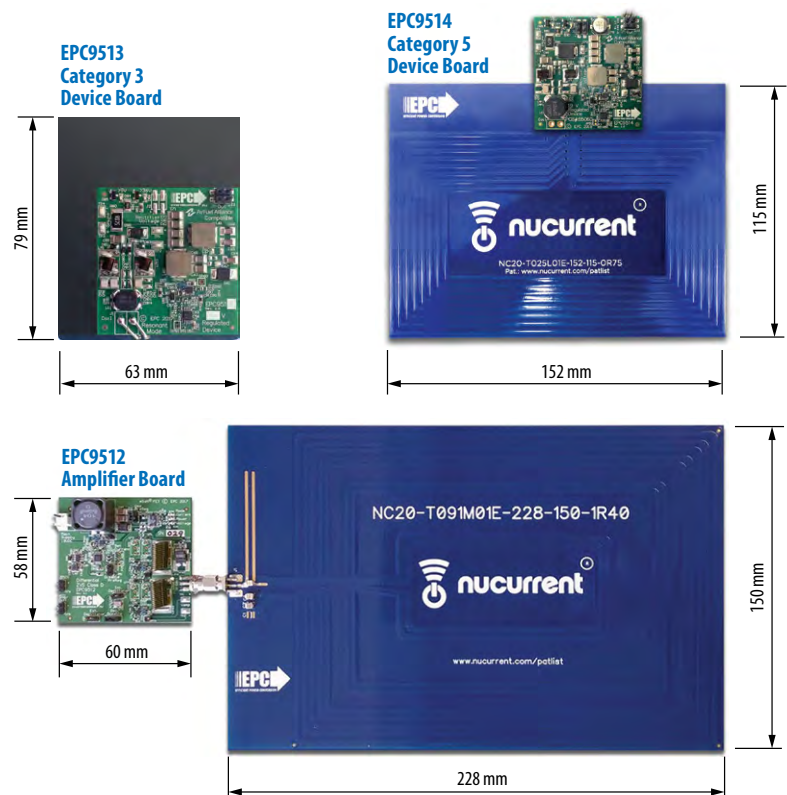
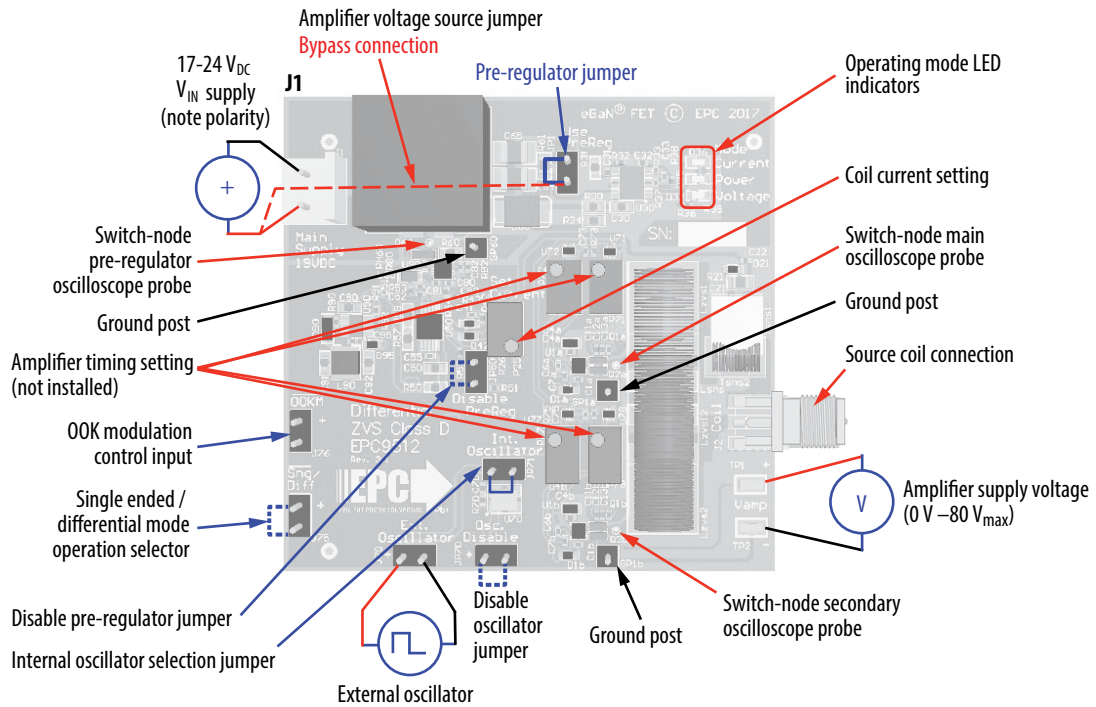

Figure 1: EPC9129 evaluation system.
Figure 8: Proper connection and measurement setup for the amplifier board.
The EPC9129 wireless power system is comprised of the four boards (shown in figure 1), namely:
The assembly of the EPC9129 Wireless Demonstration kit is simple and shown in figure 1. The source coil and amplifier have been equipped with SMA connectors. The source coil is simply connected to the amplifier. The device board do not need to be mechanically attached to the source coil.
The EPC9129 evaluation system is easy to set up and evaluate the performance of the eGaN FET in a wireless power transfer application. Refer to figure 1 to assemble the system and figures 8, 9, and 10 for proper connection and measurement setup before following the testing procedures.
2. With power off, connect the main input power supply bus to J1 as shown in figure 8. Note the polarity of the supply connector.
2. With power **off**, connect the **main** input power supply bus $+V_{IN}$ to the bottom pin of JP1 and the ground to the ground connection J1 as shown in figure 8.